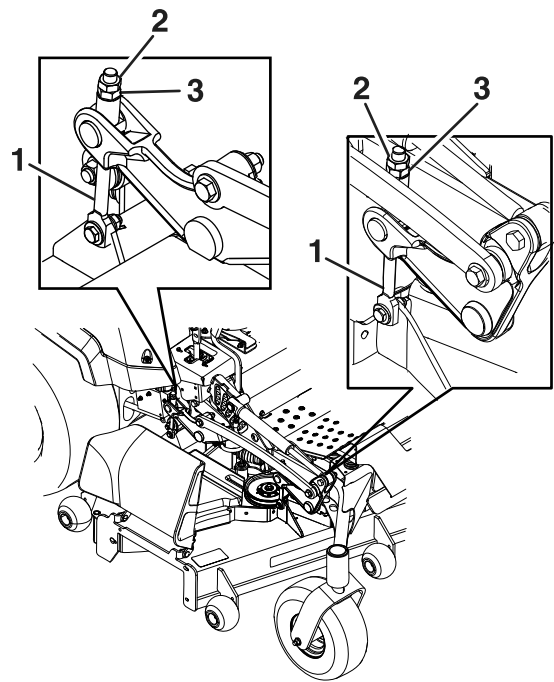

Figure 82
8. Fine-tune the adjustment nut on the front deck lift assembly by turning it (Figure 82).